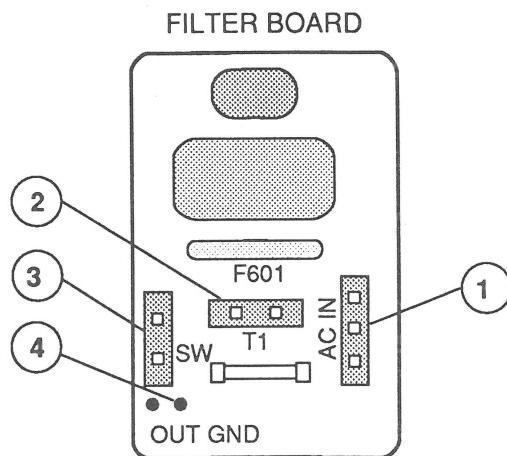

FIGURE 8
- AC IN (Figure 8, #1)
- T1 (Figure 8, #2)
- SW (Figure 8, #3)